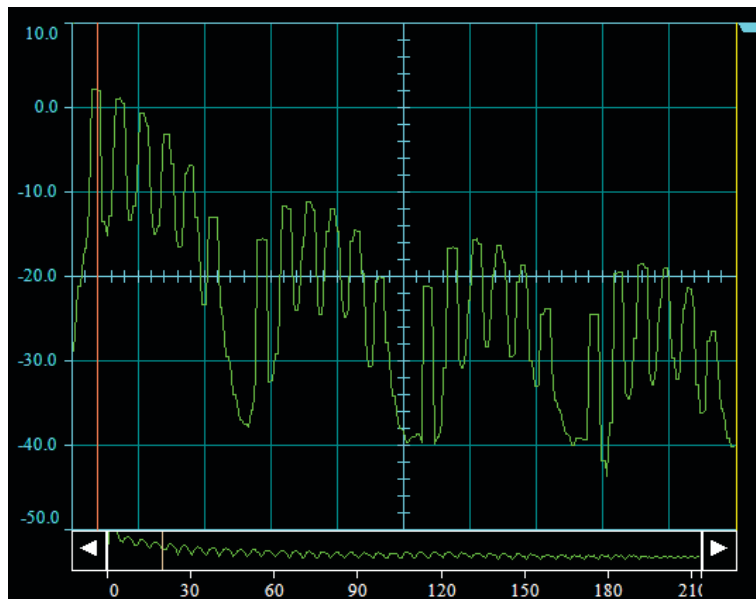

Figure 11. Spectrum of a PRBS.
10. Show the Spectrum Analyzer (click  in the toolbar or choose *Instruments* ► *Spectrum Analyzer*). Figure 11 shows an example of settings and what you should observe. In the Generator Settings, vary the value of *n* and the Bit Rate and observe the effect on the spectrum.